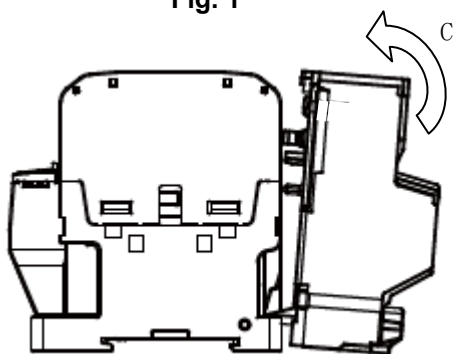

Fig. 3
4. Turn the thermal overload relay in the direction of arrow C, and turn the thermal overload relay notch D to the magnetic contactor's E face. (Fig. 3, 4)